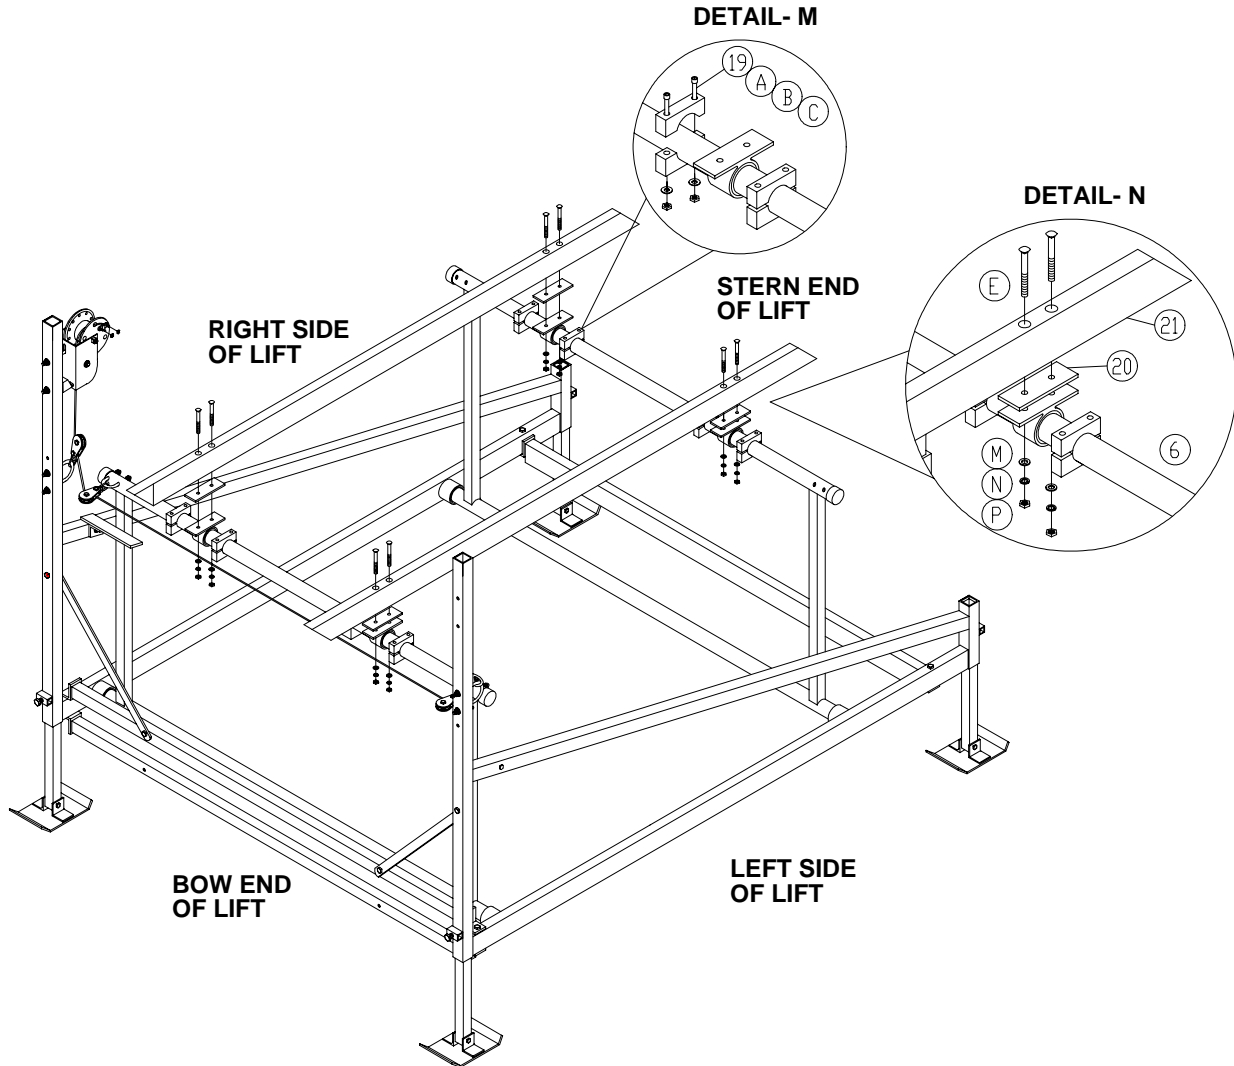

Figure 3-5.
1. Refer to **Figure 3-5**. Install the wire rope clamp, outside the drum flange as shown in **Detail I**. Do not tighten at this time.
2. Refer to **Figure 3-5**. Set distance of each pivot bunk mounting bracket a minimum of 10” from center of bow and stern lifting arm. Then mount a pair of half round clamps, approximately 2” away from each side of pivot bunk